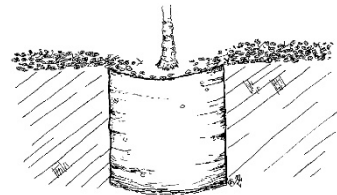

Figure 11. Mulch shall taper to a slightly thinner layer on top of the rootball.
**Mulching:** A layer of organic mulch, such as leaf litter, shredded bark, or wood chips, helps protect tree roots from temperature extremes and conserves soil moisture. Mulch also helps prevent grass from competing with the tree for water and nutrients. The mulched area makes it easier to operate mowers and weed eaters without hitting the trunk and compacting soil. Apply mulch to a depth of 3 to 4 inches (slightly thinner on top of the root ball) (Figure 11).